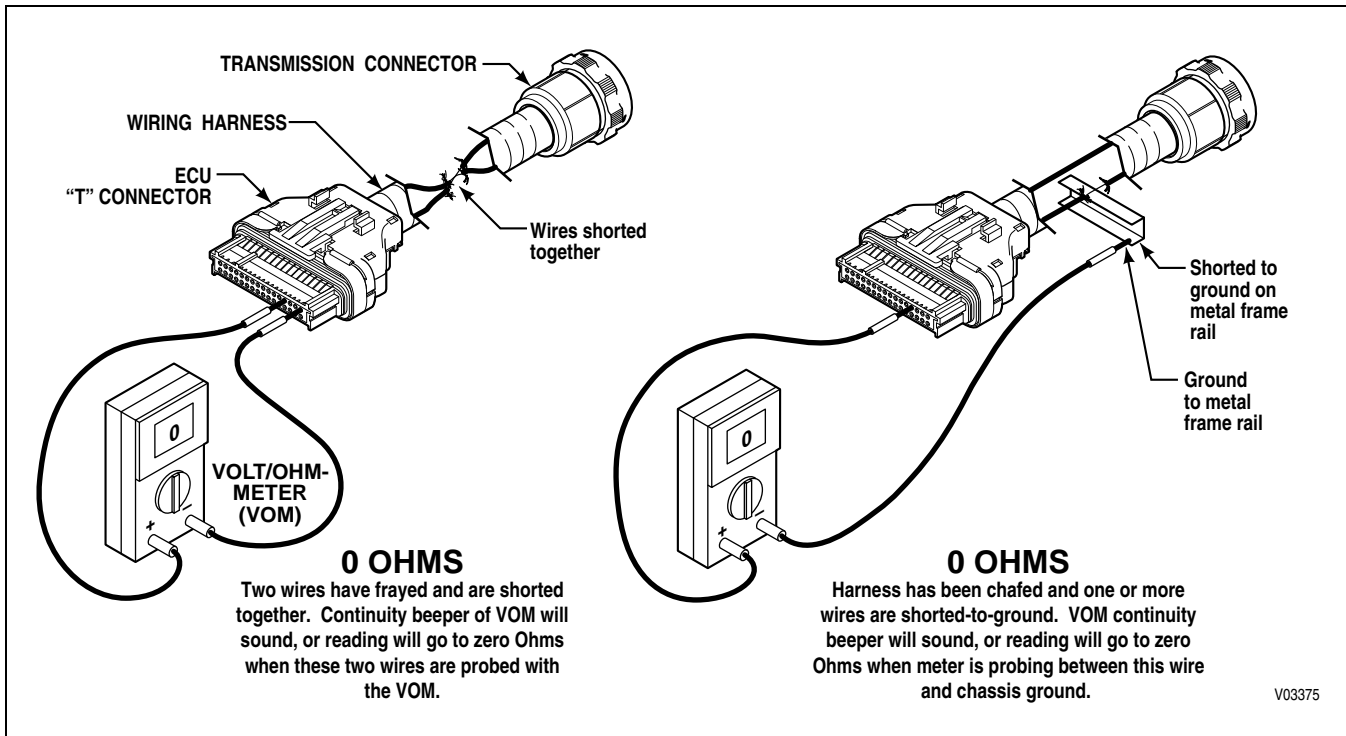

Figure 4–2. Short Between Wires and to Ground
- (2) On the opposite end of the harness, check the continuity of the jumpered pair. No continuity in a jumpered pair circuit (infinite resistance reading) indicates an open in the wire being tested. Locate and repair the damaged portion of the wire.
- b. If the continuity check is good (0–2 Ohms resistance), remove the jumpers. Check the harness for shorts between wires and shorts-to-ground by performing the following (refer to Figure 4–2):
- (1) At the ECU end of the harness, touch one VOM probe to one wire of the circuit being tested and touch the other probe to each terminal in the same connector, then touch the probe to chassis ground and to the transmission main housing. Do this for both wires in the circuit being tested.
- (2) If at any time the VOM shows zero to low resistance, or the meter’s continuity beeper sounds, there is a short between the two points being probed — wire-to-wire or wire-to-ground. Isolate and repair the short.